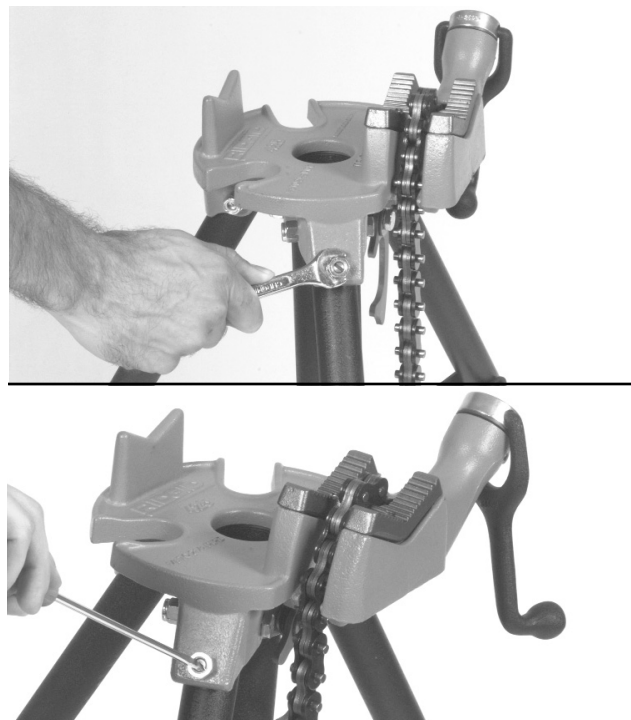

Figure 2 – Adjusting Leg Stiffness
- (A) Loosen lock-nut located on leg (*Figure 2 - left of chain vise when looking at front of base*).
- (B) Turn screw clockwise in increments of 1/8 turn until desired over-center locking force is achieved.
- (C) Tighten lock-nut.